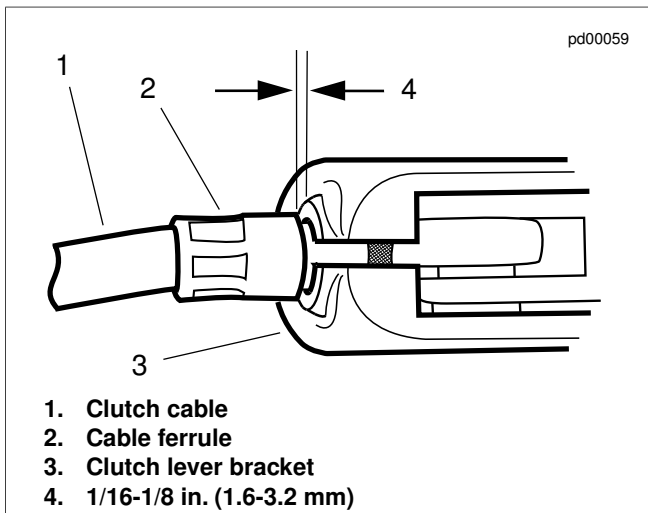

Figure 1-22. Clutch Hand Lever
- b. See Figure 1-22. Pull clutch cable ferrule (2) away from clutch lever bracket (3) to check free play. Turn cable adjuster as necessary to obtain 1/16-1/8 in. (1.6-3.2 mm) free play between end of cable ferrule and clutch lever bracket.